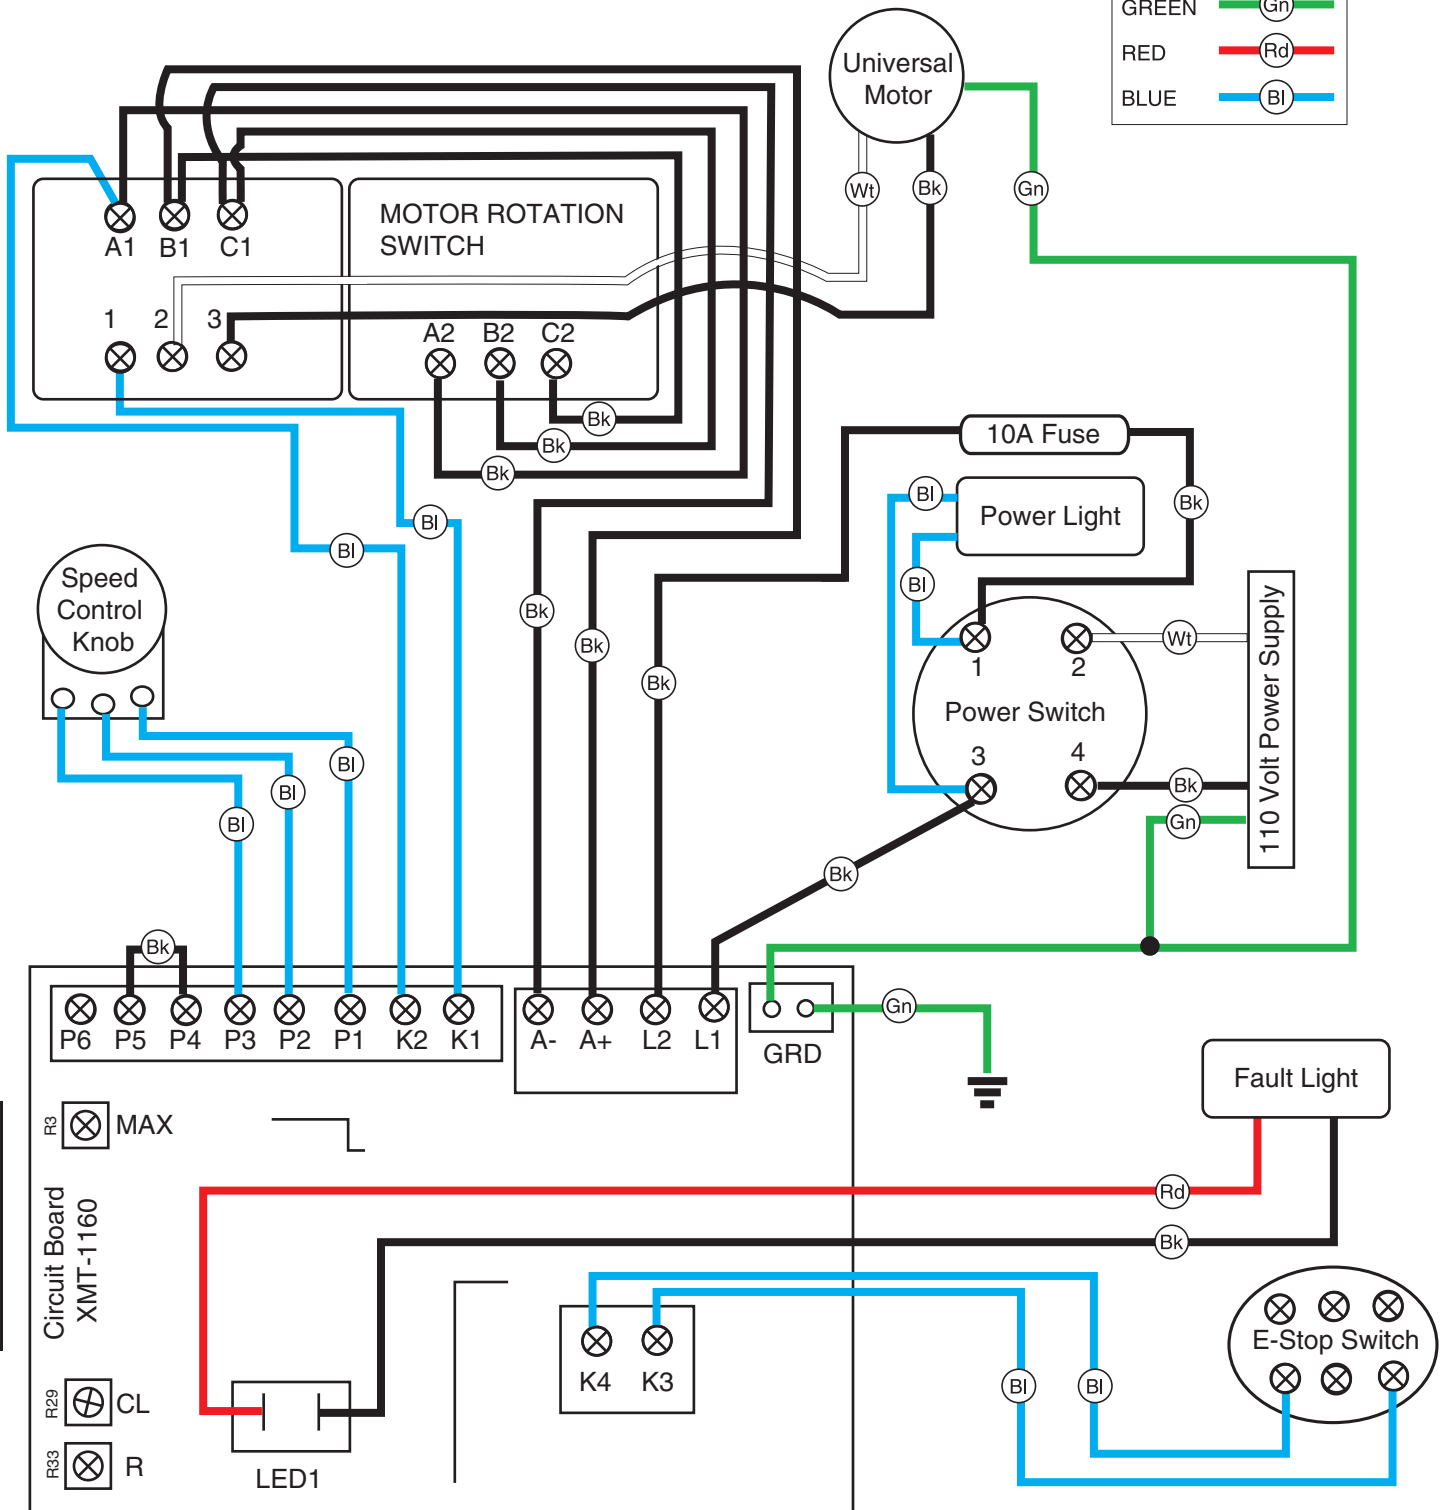

Figure 35. Fuse replacement.
2. Remove and replace the fuse from the fuse cradle, as shown in **Figure 35**.